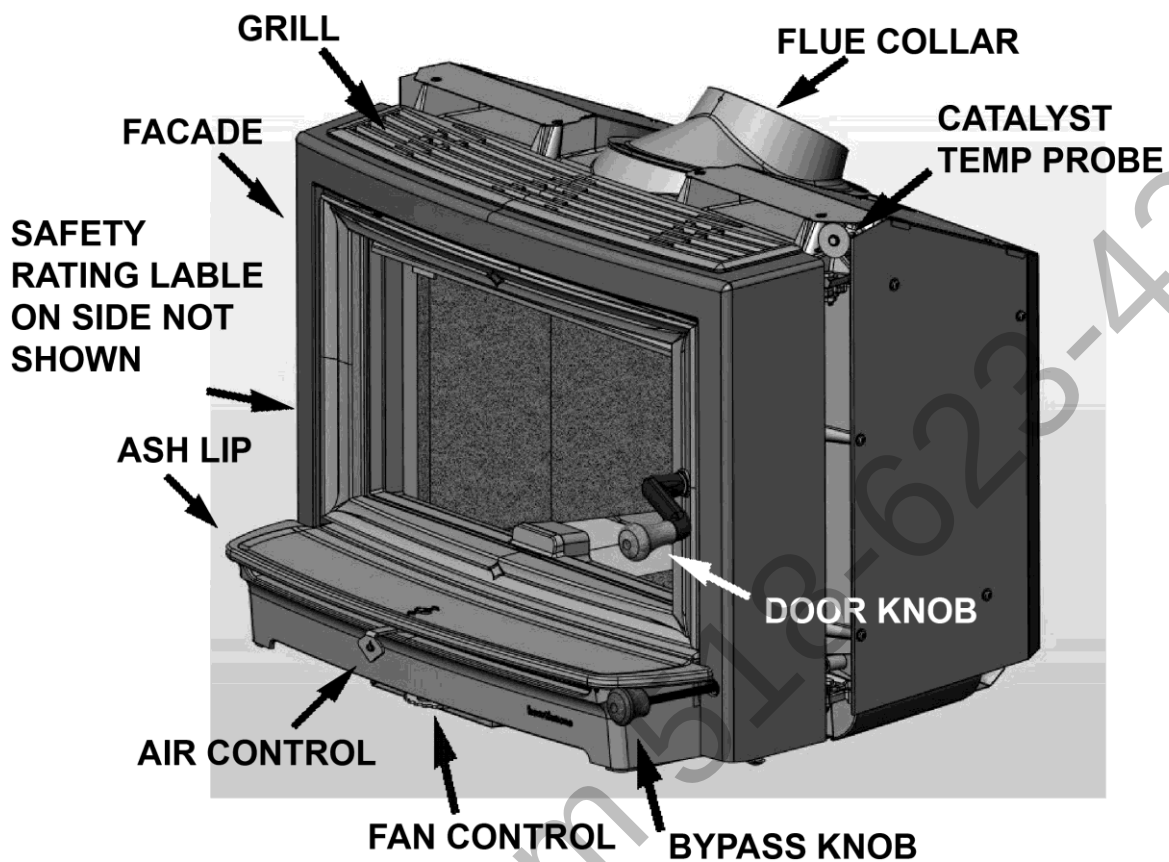

Figure 5 – Exterior Features of The Clydesdale
1. Remove Ash Lip by backing out the setscrews just below both front corners of the ash lip. Then with the door opened wide, lift the front edge of the ash lip slightly (avoid making contact with door) and move it to the left (If the door hinges are on the left move ash lip to the right.) and out from under the door. Remove the grill (see figure 5). Remove the bypass knob from the push-pull rod.
2. Close the door to within 1 inch, turn the door handle to the 12 o'clock position. Grip the facade (see figure.5) by the sides, close to the height of the ash lip, and pull the bottom of the facade out about 2 inches to clear the door and handle, lift slightly and slide facade off of bypass rod.